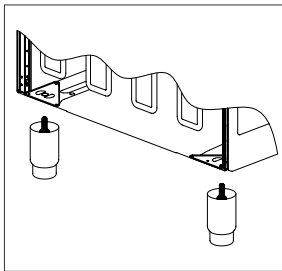
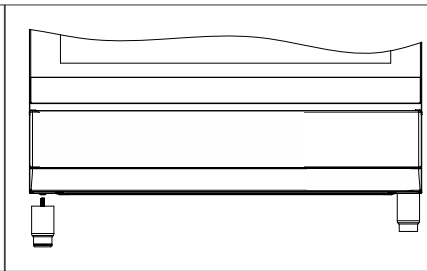

Figure 1
Figure 2
1. Foot attachment lath is installed on the appliance from the bottom of the appliance as shown in (figure 1). Nuts are centered on these lathes in order to screw feet. Complete the feet installation process by screwing the feet to the nuts (figure 2).